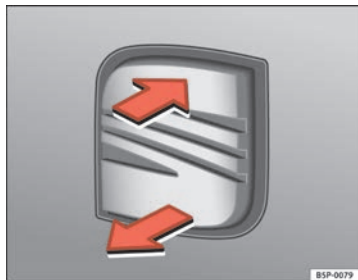

Fig. 74 Luggage compartment: opening from the outside
- Pull on the release lever ⇒ fig. 74 and lift the tailgate at the same time.